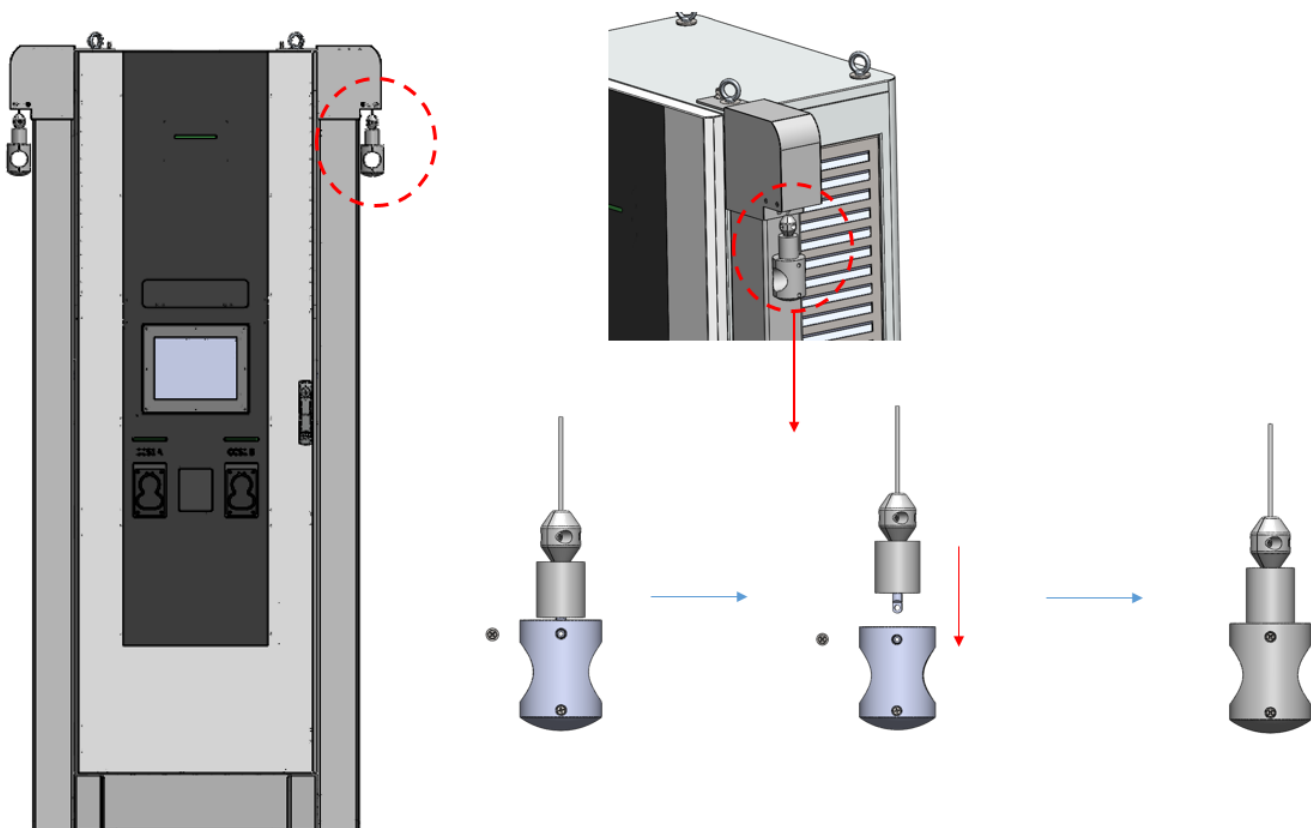

Figure 20 Schematic diagram of fixing charging cable
(6) If cable retractors are equipped. Fix the charging cable with the clamp on cable management system, as shown in Figure 20.